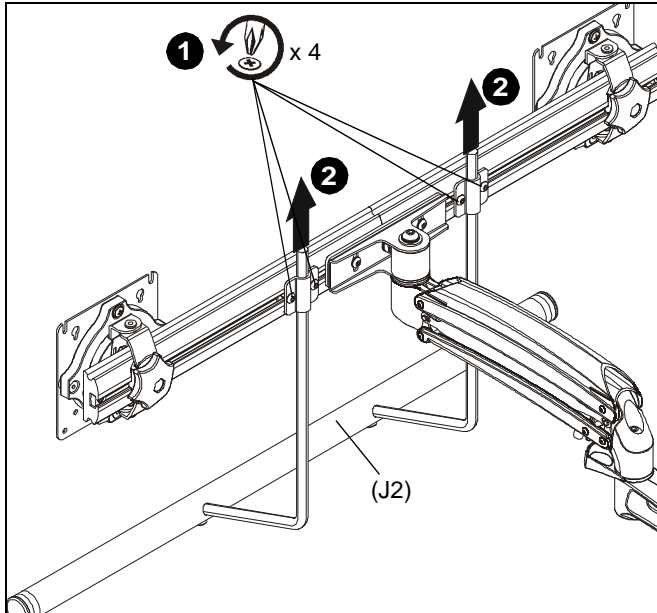

Figure 7
1. Loosen four screws securing handle brackets to K1P22 array. (See Figure 7)
2. Install uprights of handle (J2) into handle brackets located on the back of array. (See Figure 7)